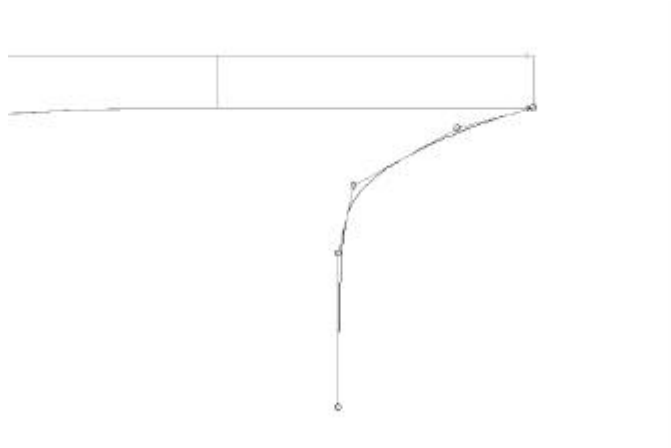

Figure 5-6: Stem Curve, S Side View
2. Edit the shape as shown in figure 5-6.